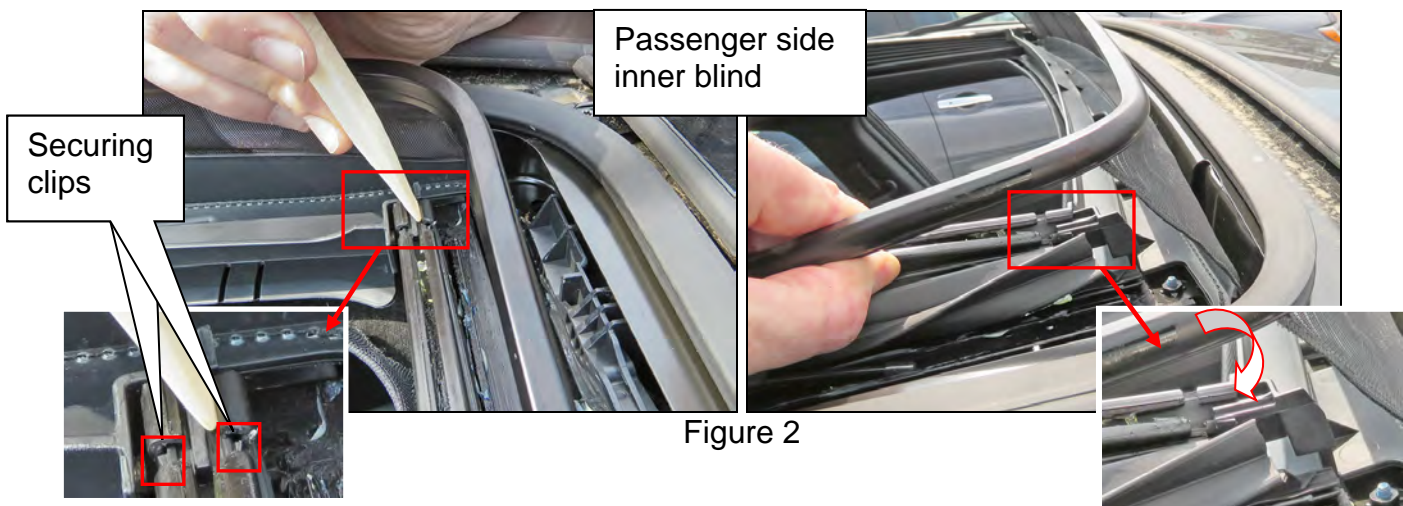

Figure 2
3. Remove the left and right inner blinds (Figure 2).